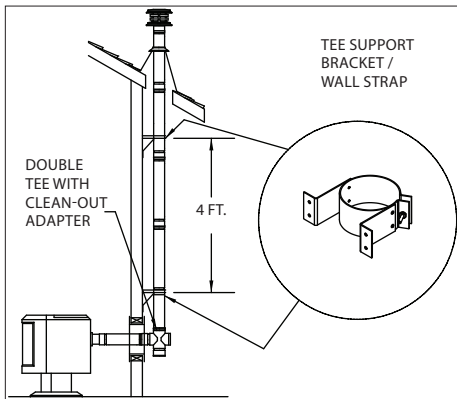

Figure 4
4. If the flue exit is on the back of stove, and an exterior vertical installation is desired (**Figure 4**):